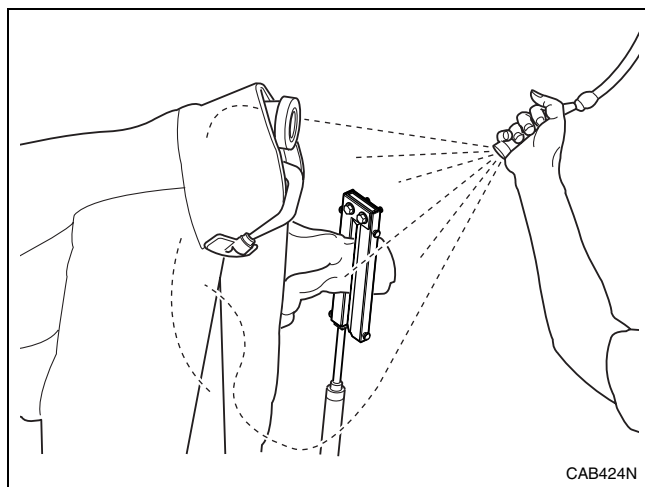

Figure 15
13. Spray with water gun if necessary. Refer to *Figure 15*.